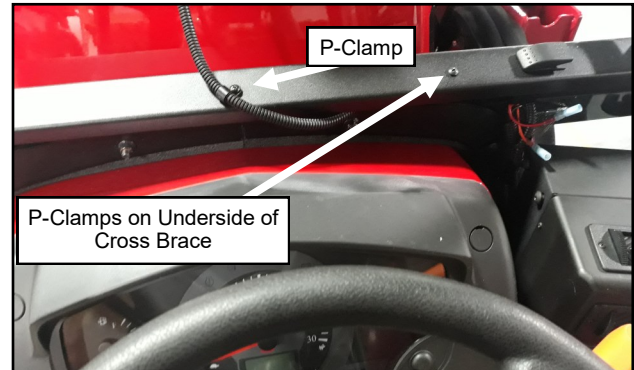

Fig. 11.1 (Attach Main Harness To Cowl)
- 11.1 Attach the main power wire harness to the top of the cowl cross brace, about 6" from the end of the windshield wiper motor connector, using a P-clip and hardware. The connector end should be outside the cab with the rest of the harness on the inside. See Figure 11.1.
- 11.3 Attach the harness to the under side of the cowl with the supplied P-clamp & hardware listed below. See Figure 11.1.